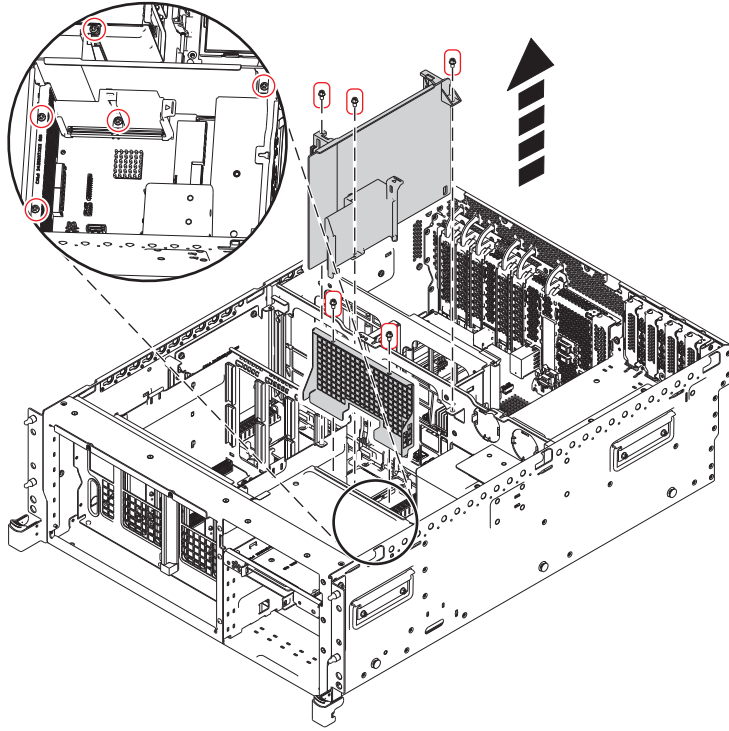
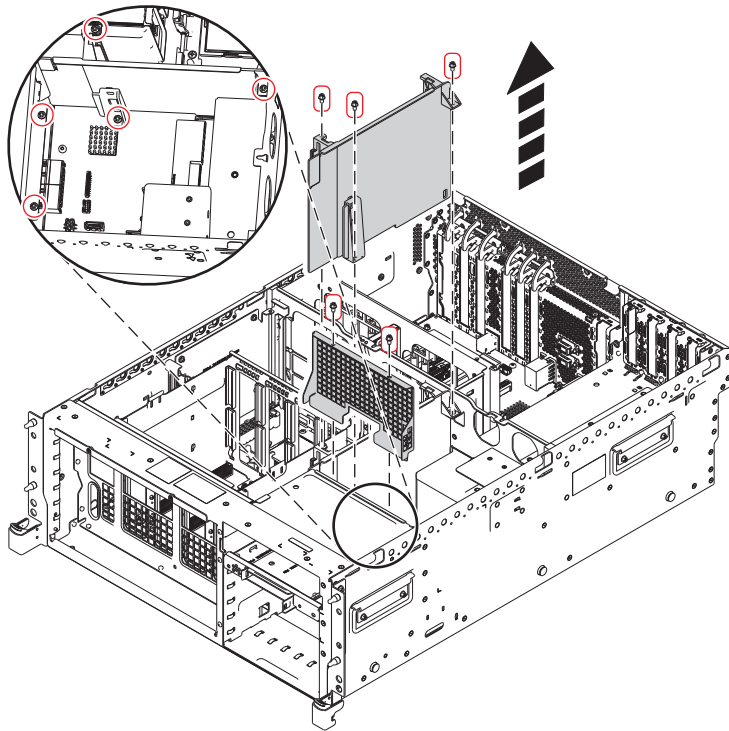

Figure 5. Removing the disk-drive cage shield from the 8202-E4B or 8205-E6B
Figure 6. Removing the disk-drive cage shield from the 8202-E4C, 8202-E4D, 8205-E6C, or 8205-E6D
- b. Remove the disk drive cage shield and the voltage regulator guide and air divider by lifting them upward. See Figure 5 on page 11 or Figure 6 on page 11.